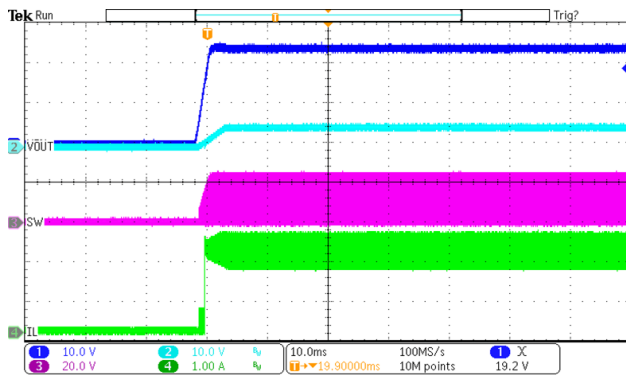

Figure 17. Power Up
The SCT2322 features external programmable output voltage by using a resistor divider network R_1 and R_2 as shown in the typical application circuit Figure17. Use equation (11) to calculate the resistor divider values.